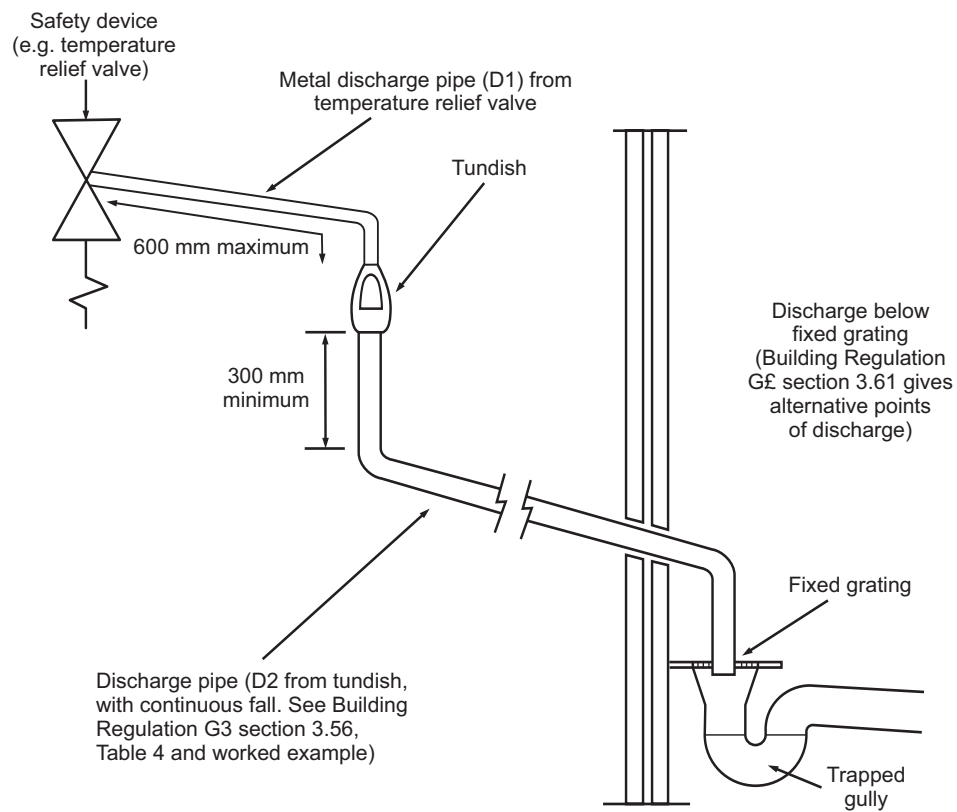

Fig. 8.1
3.54 The tundish should be vertical, located in the same space as the unvented hot water storage system and be fitted as close as possible to, and lower than, the valve, with no more than 600 mm of pipe between the valve outlet and the tundish (Fig. 8.1 & Table).